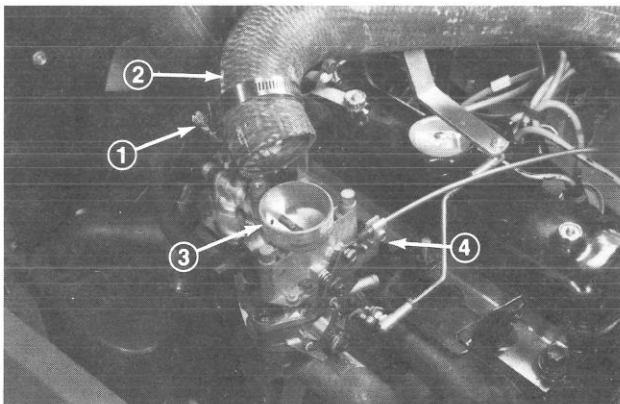

Figure 40
2. Clean dirt from around top of carburetor, loosen hose clamp and remove air cleaner hose from carburetor (Fig. 40).
3. If choke plate is not fully closed, loosen clamp screw (Fig. 40), hold choke plate closed and tighten the clamp screw.